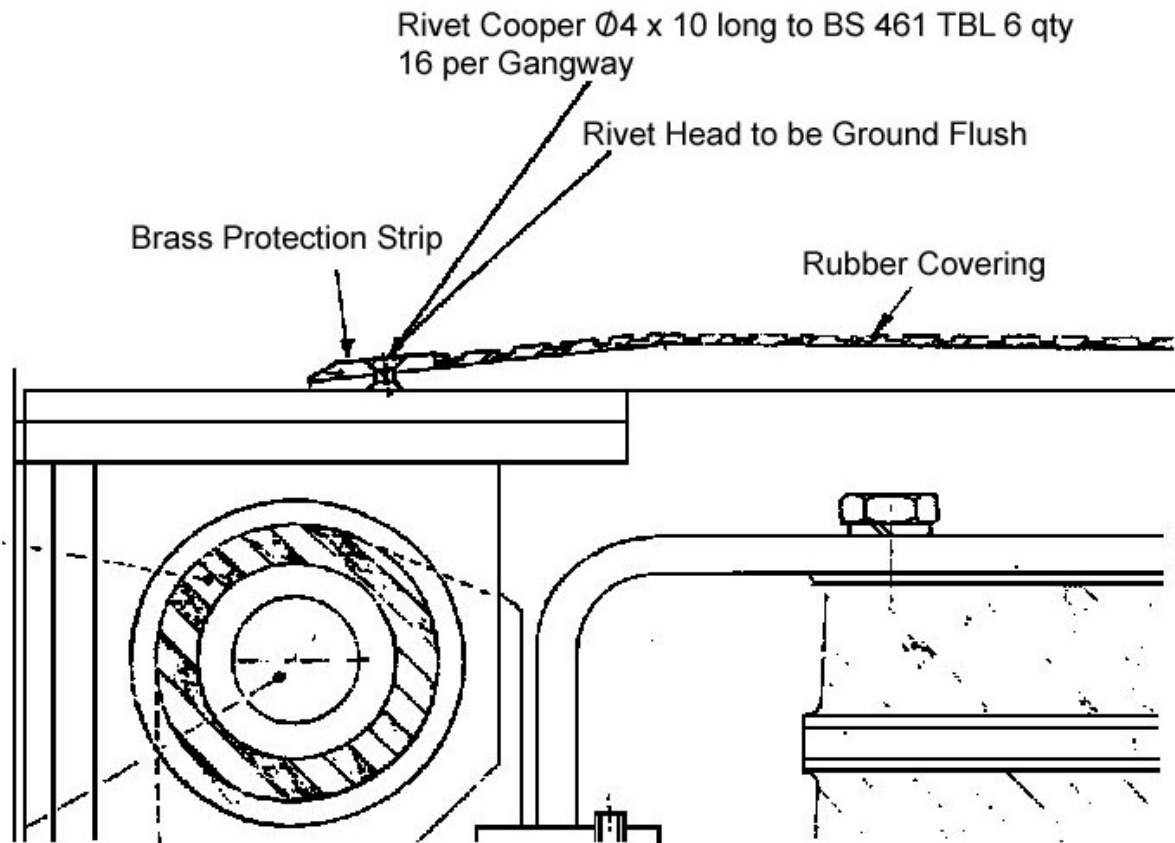

Figure 2: Detail of Fixed Treadplate
1. Examine rubber covering on gangway fixed treadplate (see Figure 2).